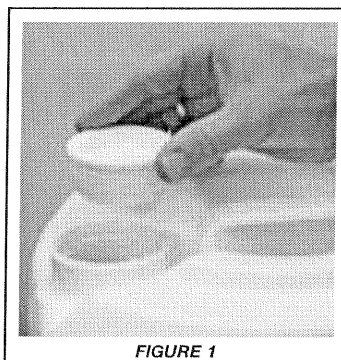

FIGURE 1
1. Place the Rieke cap on top of the threaded opening and manually thread onto the neck of the container. (fig.1 & fig.2)